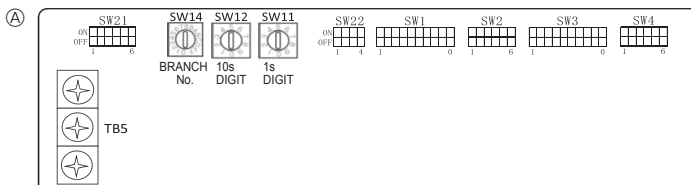

Fig. 5-9
5.6. Switch setting for high ceiling or at the time of changing the number of air outlets (Fig. 5-9)
5.7. Sensing room temperature with the built-in sensor in a remote controller (Fig. 5-9)
5.5. Setting addresses (Fig. 5-9)